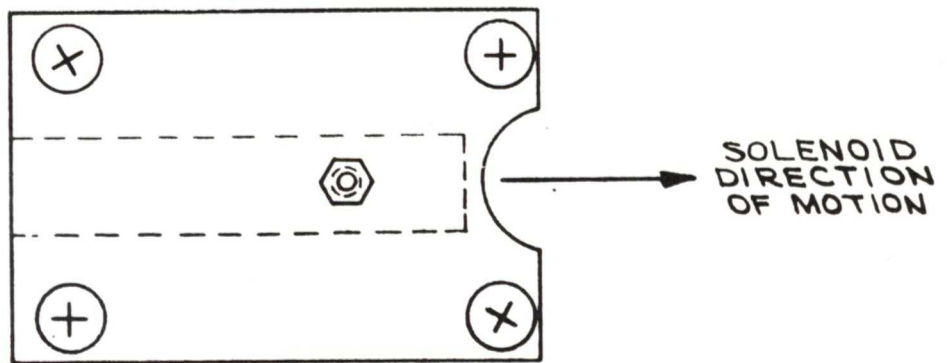

FIG. 5.5
4. NYLON SLIDE BLOCKS. Refer to figure 5.5. Loosen the four mounting screws. Separate the blocks at the solenoid end as far as possible. Snug the two screws on this end to hold the blocks in place. With the linkage in the rest (off) position squeeze the opposite ends of the slides tight against the aluminum slide without actually binding. Work the slide several times by hand to make certain no binding exists. Tighten the four mounting screws.